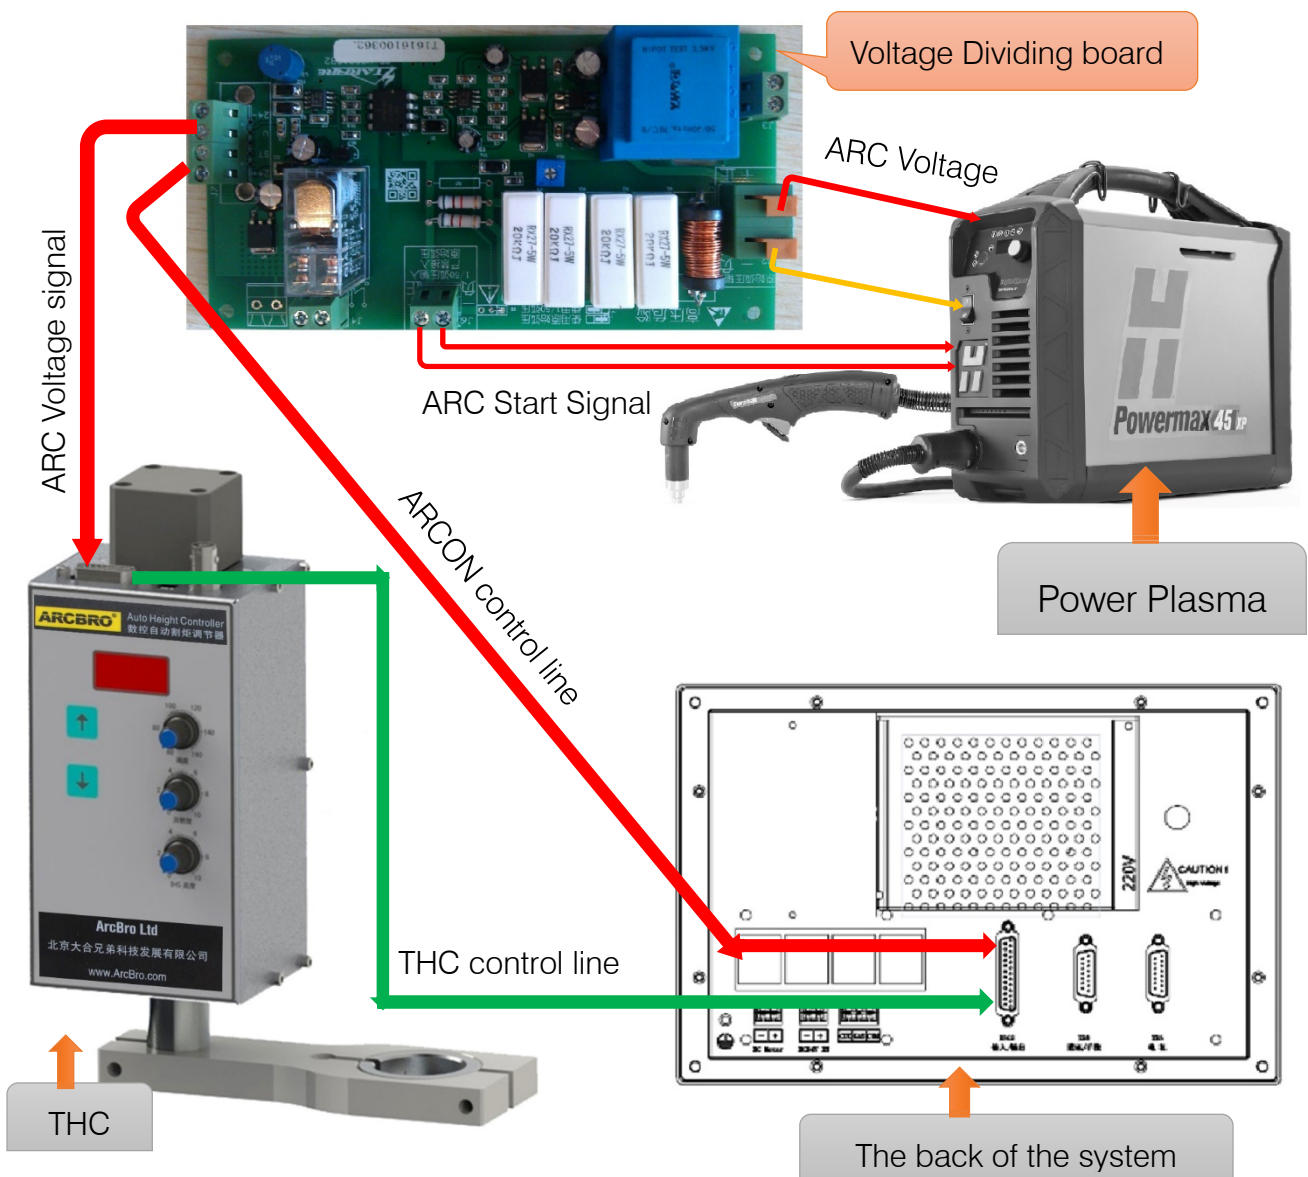

Fig. 3-8 Electrical Installation of Arc-voltage Controller
- ◆ For the electrical installation of arc-voltage THC, please view Fig. 3-8.